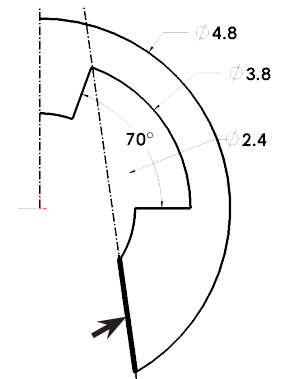

Fig. 10
Step 1. Click **Line**  (L) on the Sketch toolbar.
Step 2. Draw a line to close bottom of clip as shown in **Fig. 10**.